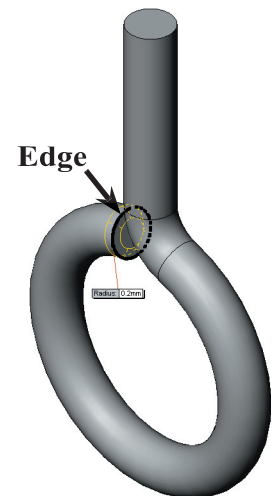

Fig. 14
- Step 3. Click the edges at both ends of the axle and click OK  in the Property Manager, **Fig. 14**.